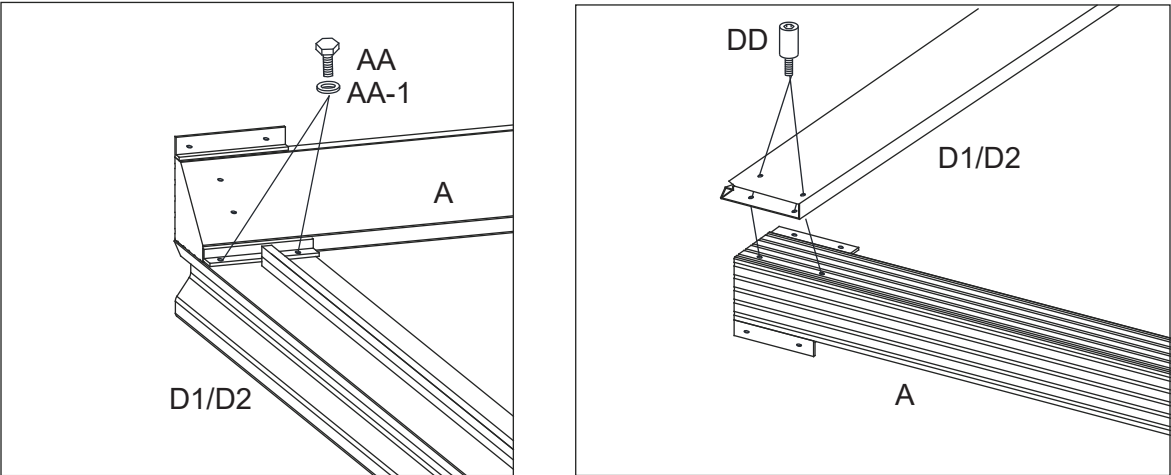

Figure 4-1
4.1: Attach Long Lintels (D1,D2 and D3) to end of Corner Posts (A) first with Bolts (AA) and Steel washer (AA-1) then with Bolts (DD). Tighten all Bolts. See Figure 4-1.